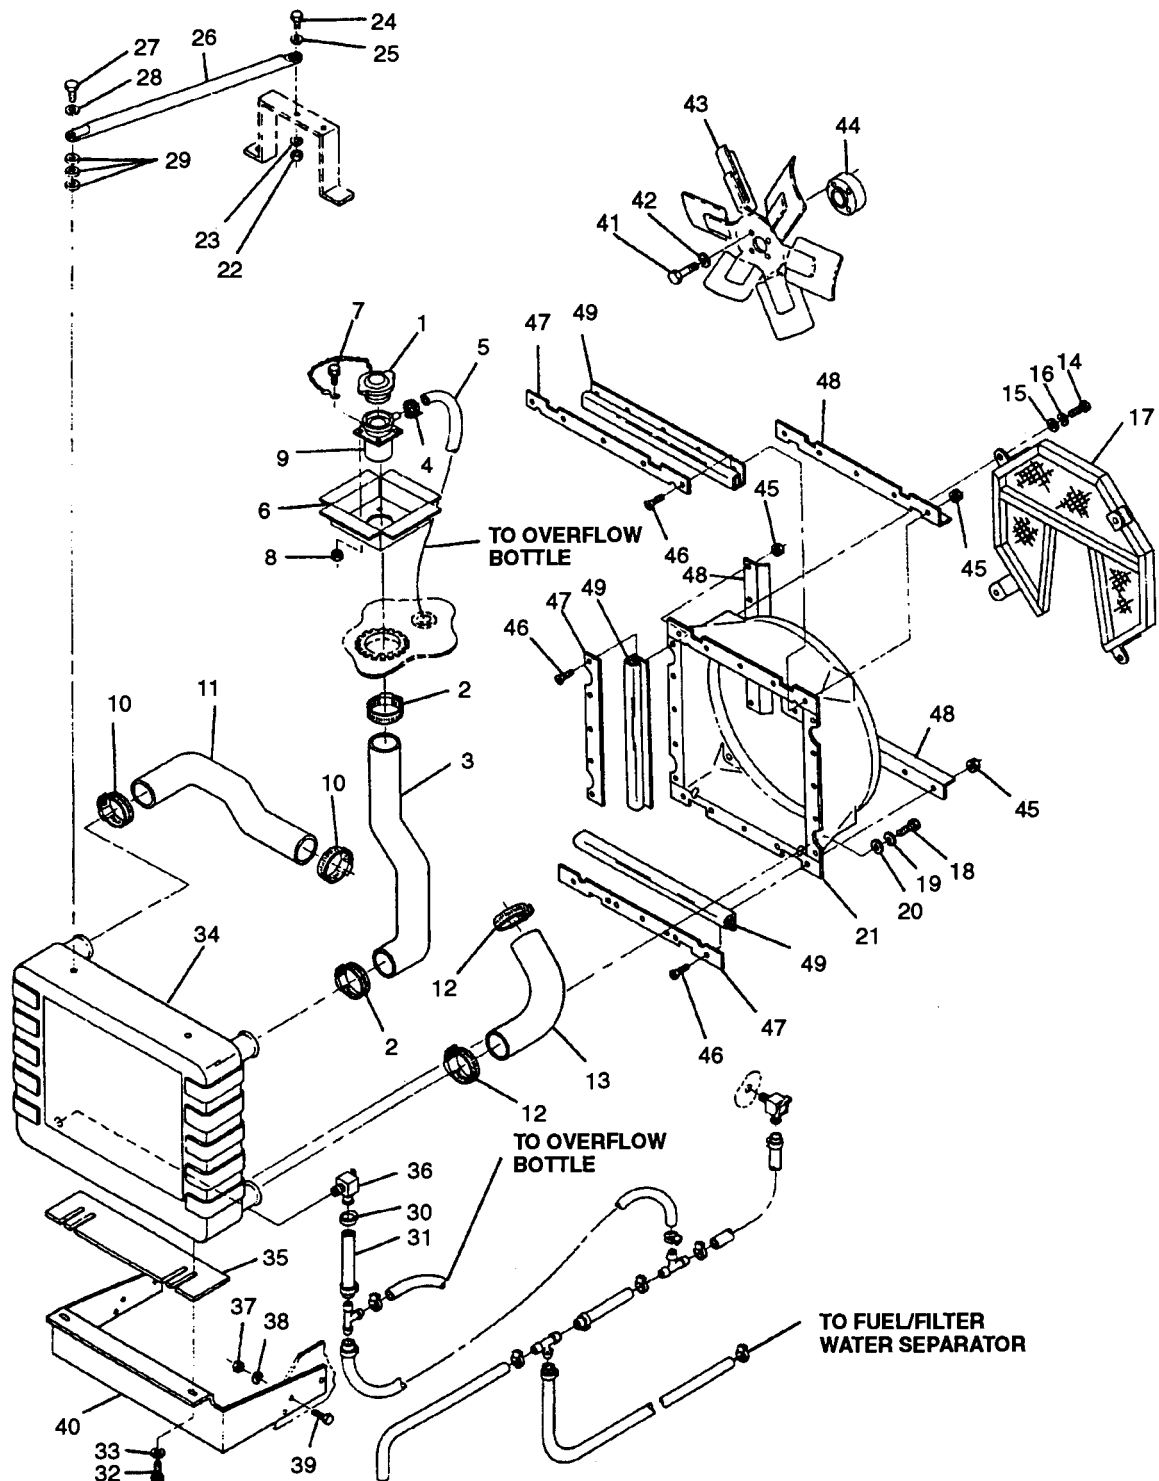

FIGURE 2-23. Coolant System
- b. Slowly remove radiator cap (1, FIGURE 2-23).
- g. Install radiator cap (1) on pressure tester.
- j. Install radiator cap (1).
- d. Slowly remove radiator cap (1, FIGURE 2-23).
- e. Open radiator drain valve (36) and drain coolant/antifreeze into suitable container to a level below radiator filler hose (3) connection at radiator.
- f. Loosen clamps (2). Remove radiator filler hose (3) and clamps (2).
- g. Loosen clamp (4) and disconnect overflow hose (5) from radiator filler neck (9).
- h. Remove radiator fill panel (6) and filler neck (9) from generator set.
- i. Remove bolts (7), nuts (8), cap (1), and radiator filler neck (9) from radiator fill panel (6).
- c. Inspect radiator filler hose (3, FIGURE 2-23) for cracks, holes, and dry rot.
- d. Inspect filler panel (6), filler neck (9), and cap (1) for cracks, excessive corrosion, and other damage.
- a. Install radiator filler neck (9, FIGURE 2-23) and cap (1) on radiator fill panel (6) with bolts (7) and nuts (8).
- b. Position radiator fill panel (6) and filler neck (9) in generator set and attach overflow hose (5) with damp (4).
- c. Install radiator filler hose (3) on filler neck (9) and radiator (34) with clamps (2).
- e. Close radiator drain valve (36) and add coolant /antifreeze to proper level, paragraph 2-1.2.2.
- Slowly remove radiator cap (1, FIGURE 2-23).
- Open radiator drain valve (36) and drain coolant/antifreeze into suitable container.
- Loosen clamps (10). Remove upper coolant hose (11) and clamps (10).
- Inspect upper coolant hose (11, FIGURE 2-23) for cracks, holes, and rotting.
- a. Install upper coolant hose (11, FIGURE 2-23) on thermostat housing opening and radiator (34) with clamps (10).
- b. Close radiator drain valve (36) and add coolant/antifreeze to proper level, paragraph 2-1.2.2.
- c. Install radiator cap (1).
- e. Open radiator drain valve (36) and drain coolant into suitable container.
- f. Loosen clamps (12) and remove lower coolant hose (13).
- c. Inspect lower coolant hose (13, FIGURE 2-23) for cracks, holes, and rotting.
- a. Install lower coolant hose (13, FIGURE 2-23) on radiator outlet opening and water pump opening with clamps (12).
- d. Locate overflow or drain hose to be removed, as shown on FIGURE 2-23 and FIGURE 2-25.
- d. Remove bolts (14, FIGURE 2-23), washers (15), lockwashers (16), and fan guard (17) from shroud (21).
- a. If removed, install radiator mounting bracket (40, FIGURE 2-23) with bolts (39), lockwashers (38), and nuts (37).
- b. Install drain valve (36) in radiator (34).